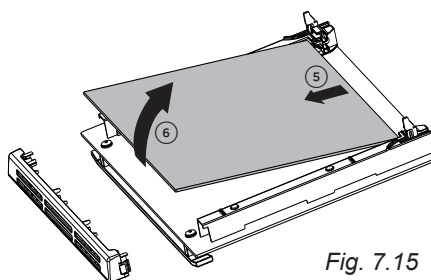

Fig. 7.15
- Gently lift and pull out the middle pane of glass by releasing it from the bottom retaining notches (fig. 7.15).